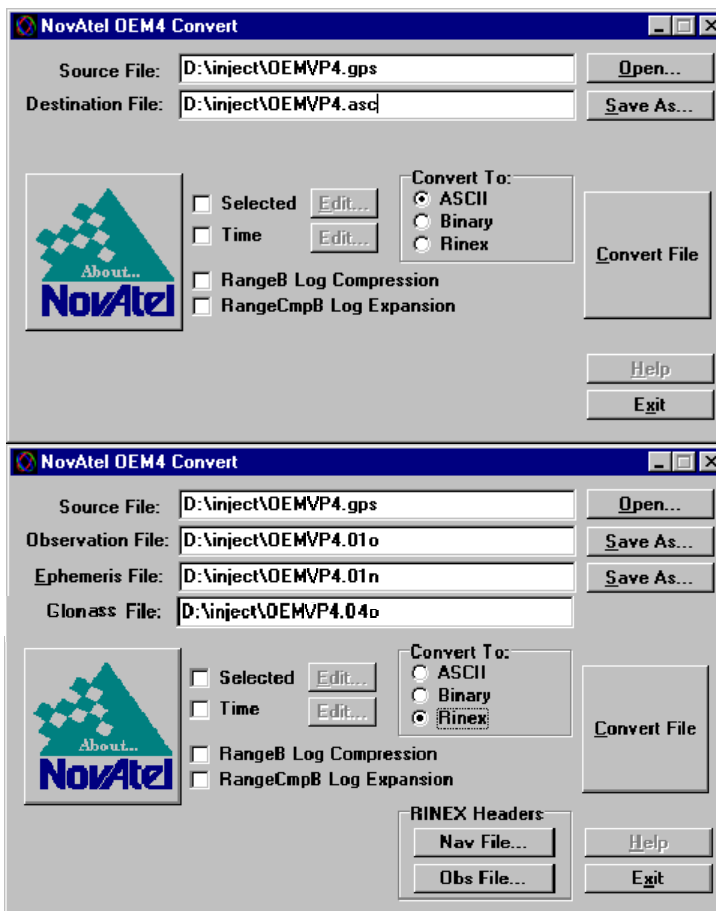

Figure 9: Convert4 Screen Examples
Convert4 is a 32-bit Windows application and is shown in *Figure 9*. Convert4 will accept GPS file formats and convert them to ASCII, Binary or Rinex format. The application also allows the user to screen out particular logs by selecting the desired logs from the list of available logs. This feature is useful for screening particular logs out of large data files in either ASCII or Binary formats.
Selecting the RINEX field, see *Figure 9, Convert4 Screen Examples on Page 44*, in the Convert4 To section causes the:
- a. Information from this log overrides data entered into the Receiver Number, Type and Version fields using the OBS file button of the RINEX Headers section, see *Figure 9* on *Page 44*.